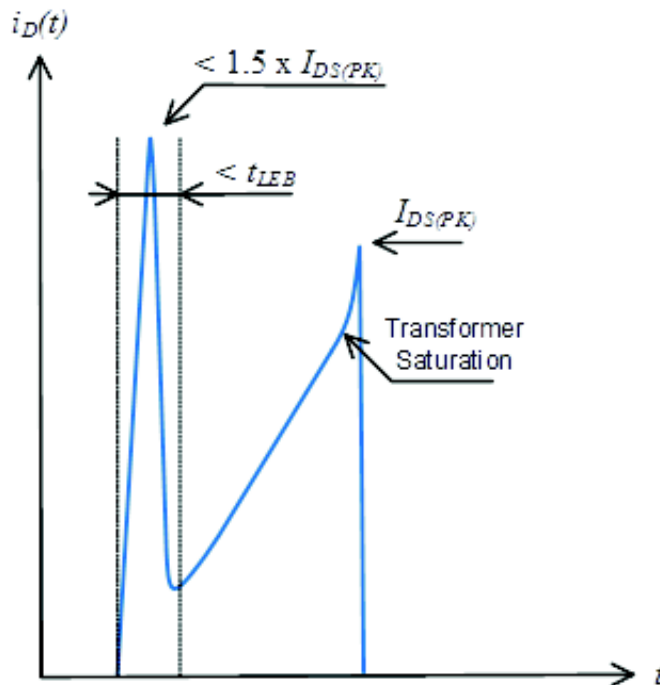

Figure 4. Spike Limits
- Maximum drain current  $I_{DS(PK)}$  is obtained when the transformer saturates. It should not be mixed with short pulses that can be seen at turn on. Figure 4 below provides spike limits the device can tolerate.